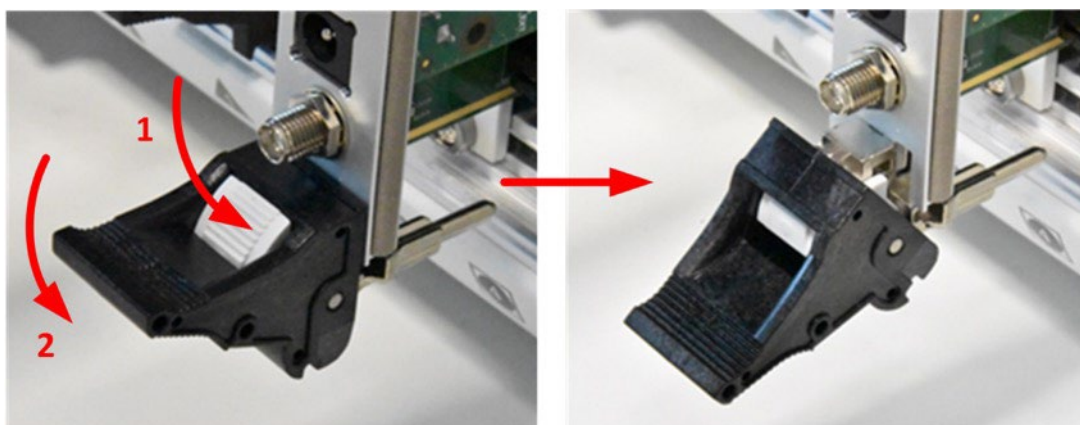

Figure 19: Push the ejector latch down prior to inserting the module
3. Push the ejector handle down (Figure 19) by pressing the grey button (step 1) on the handle and subsequently pushing the black handle (step 2) down.